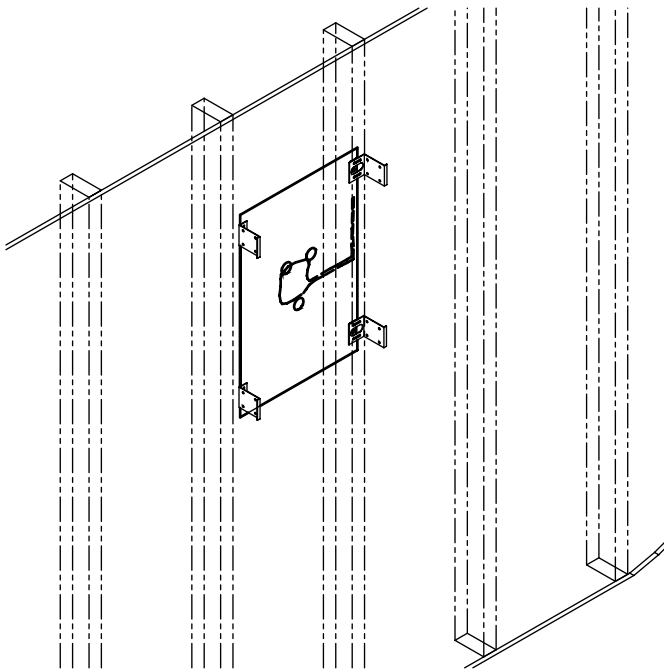

fig. 4
4. If the separation between the studs/joists is less than 21-1/2" ( 54.6 cm), place the Installation Aid/ Mounting Bracket with the long side (21" - 53.3 cm.) parallel to the studs/ joists. (please see fig. 4)